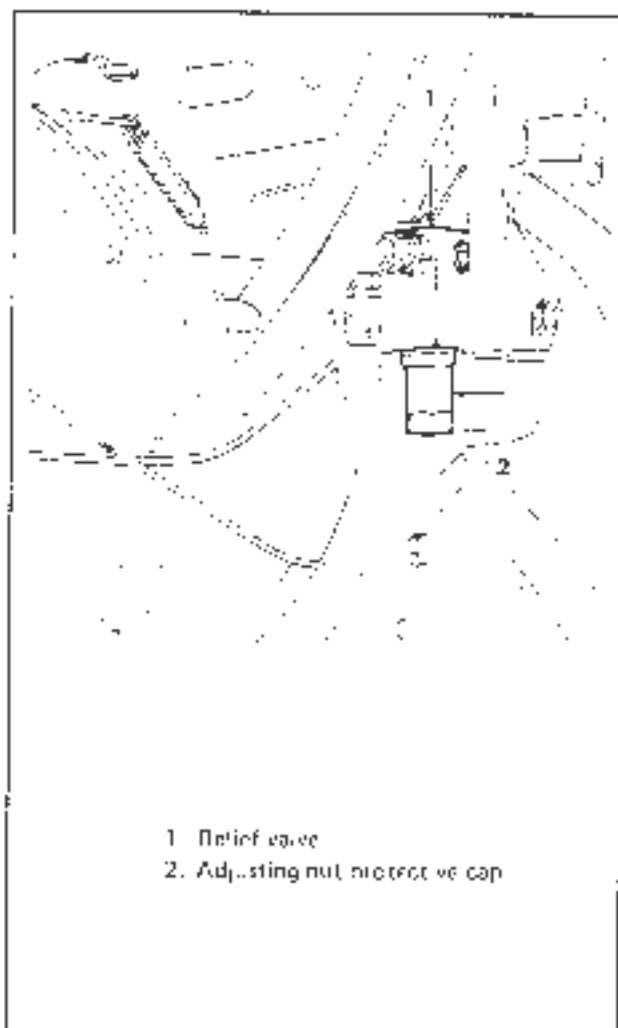

Figure 36. Setting of the hydraulic system relief valve
- If pressure is found to be lower, set properly the hydraulic system relief valve (see fig. 36) in screwing on or screwing off adjusting nut with a screw-driver. Remove cap prior to taking action.